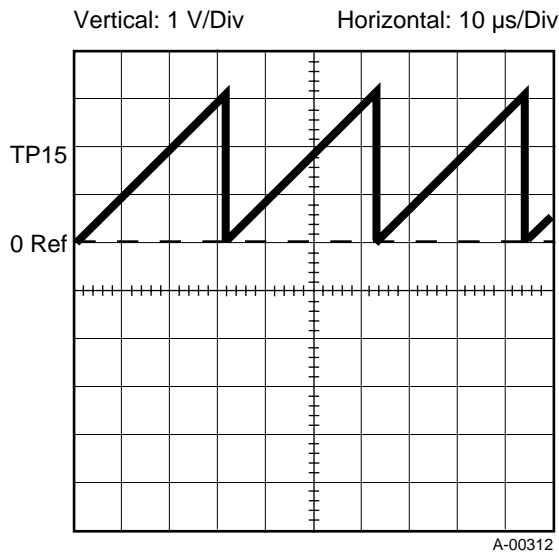

Figure 4-Q Basic Oscillation Waveform at TP15
- d. Amperage (A) control fully counter clockwise
- c. The sawtooth waveform should be approximately 3.2 volts at 31.5µs (refer to Figure 4-Q).